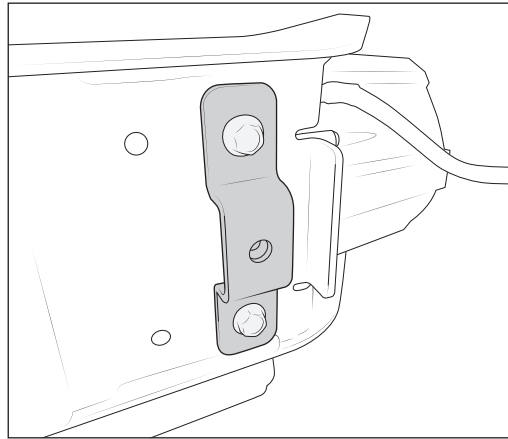

Figure 13
9. Fasten the winch cradle lockdown bracket to the bottom of the winch cradle using the hardware provide with the winch (fig. 13).